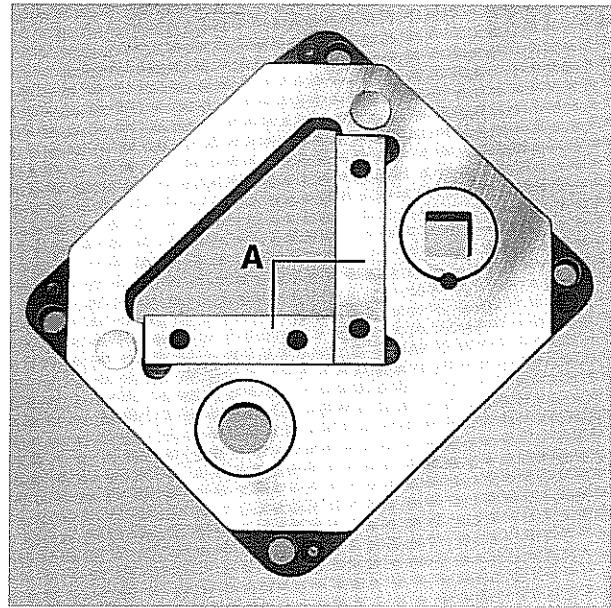

Fig. 44: Blade for angles, stationary
a) For disassembling the section blades, confer instruction, item 1.
b) Disassemble the insert blades "A" and "B". (See fig. 44 and 45).
e) For installation of the section confer instruction, item 2.